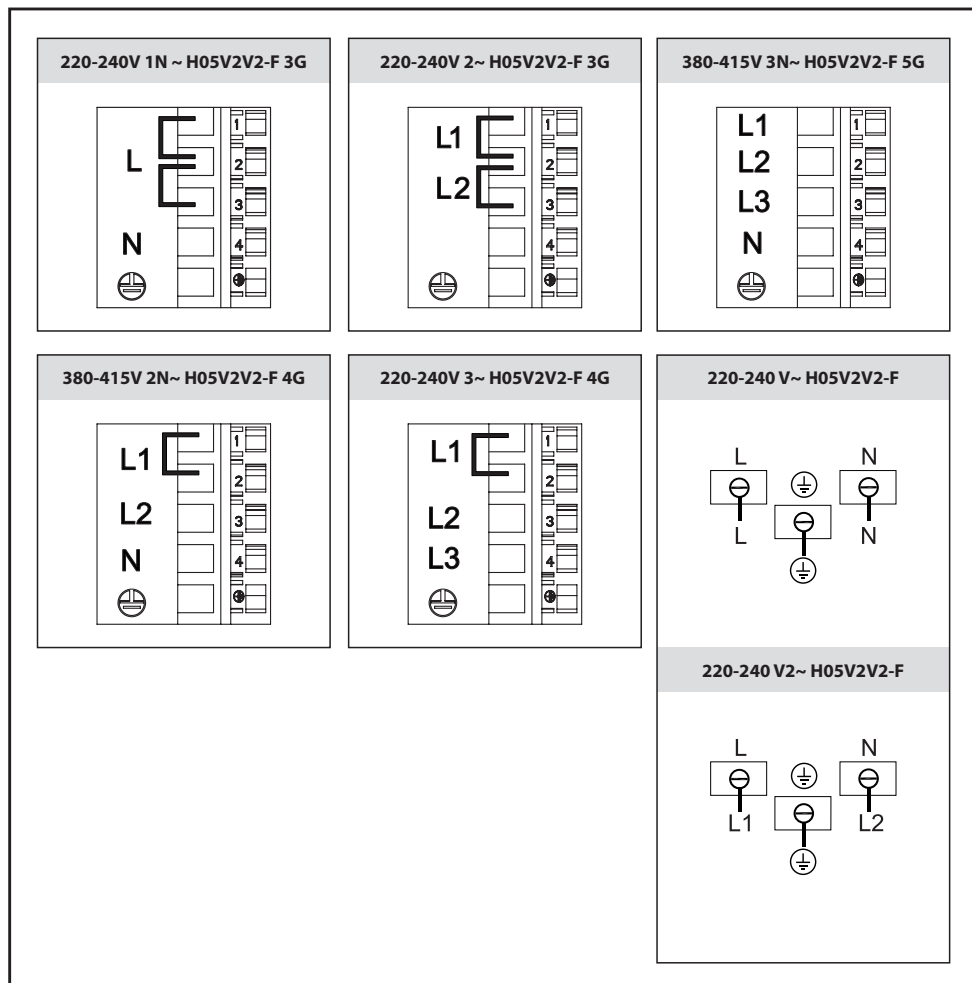

Fig.5
• Connessioni elettriche (Fig.5):
• Stromanschlüsse (Abb.5):